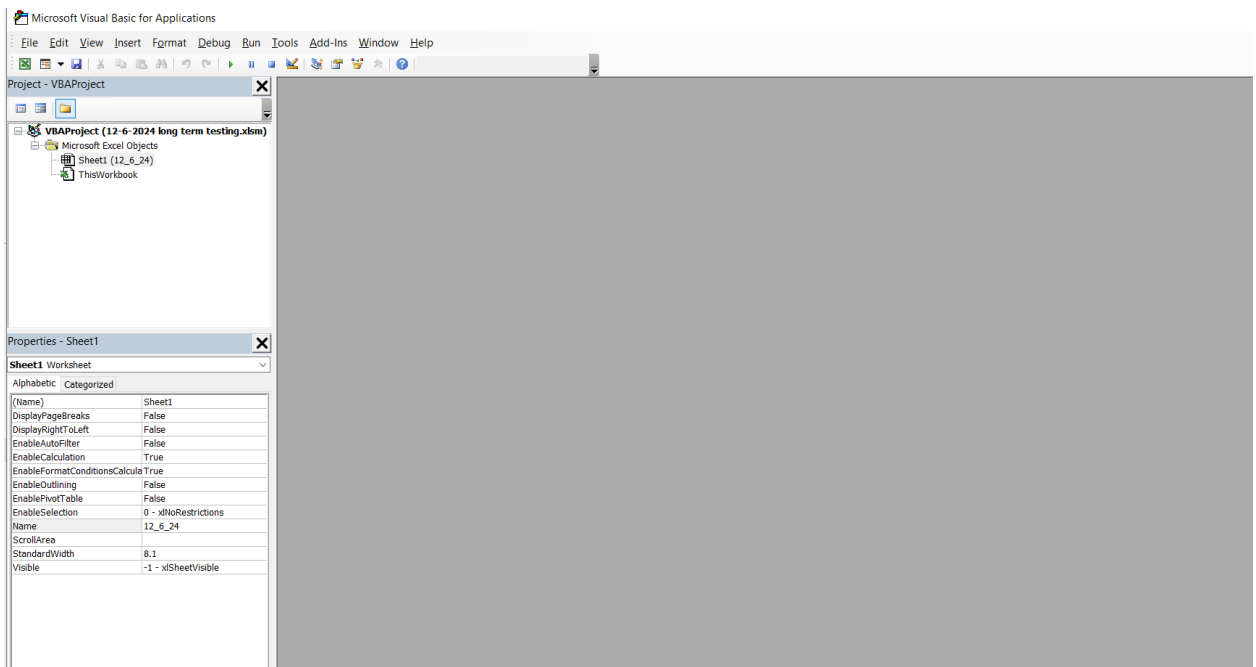

Figure 12: VBA Initial Opening Window
2. The fastest way to access VBA is by pressing alt+f11. On a new project this will populate a grey window as seen in figure 12.